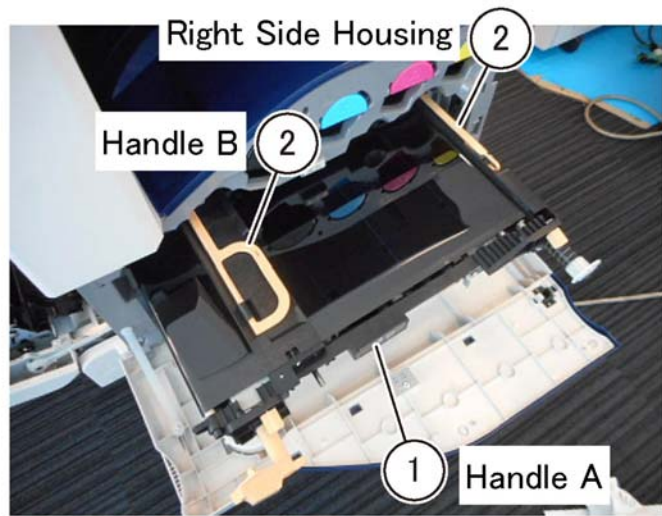

Figure 2 IBT belt unit removal
5. Remove the IBT belt unit, Figure 2.